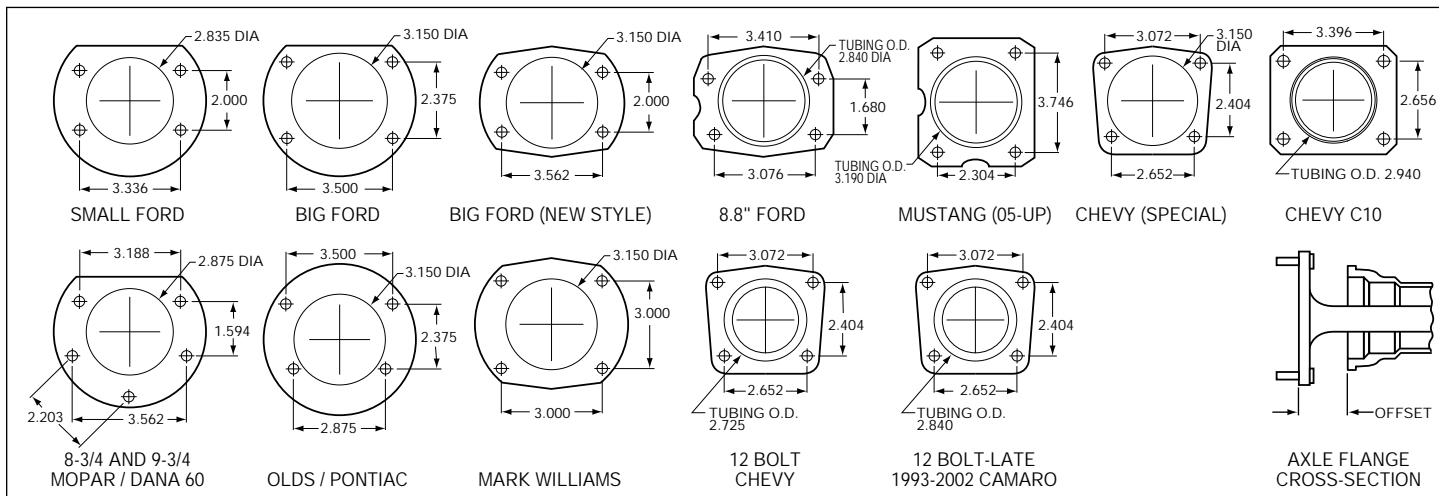

Figure 4. Rear Housing Flange Chart and Axle Flange / Offset Cross-Section
- Make sure this is the correct kit to fit the axle housing flange, not necessarily the rear end make. Many times after market manufacturers put a different make of axle housing flange on the stock rear end housing (see Figure 4). Example; Big Ford rear ends with Olds-Pontiac flanges, therefore, an Olds-Pontiac rear disc brake kit would be the correct kit to order.
- Dimension from wheel side of axle flange to wheel side of axle housing flange (see Figure 4, lower right hand corner). This dimension is critical to ensure proper alignment of the rotor to the caliper, and should match offset given in the kit description.